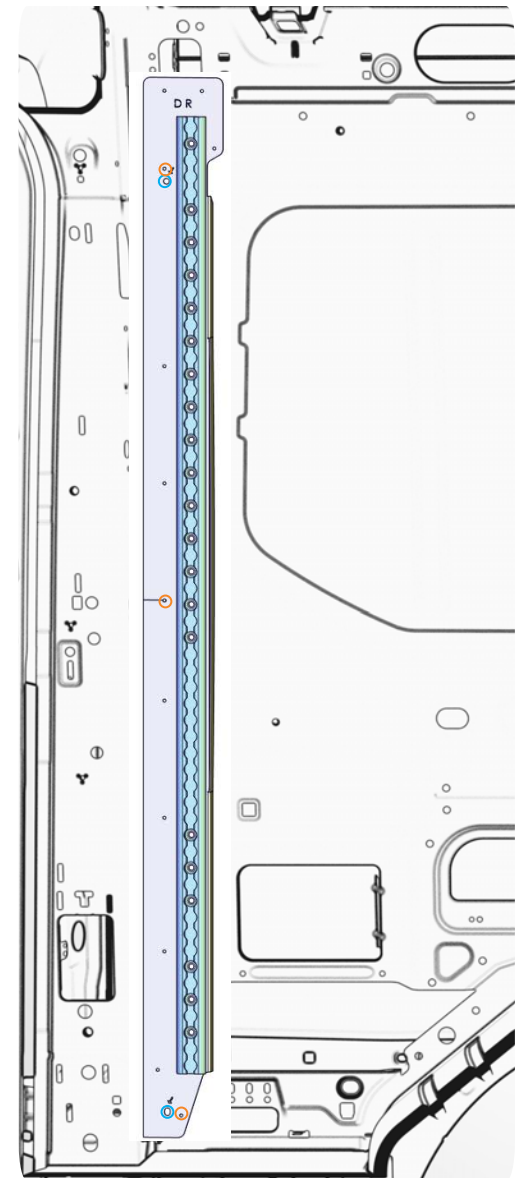

FIG 4
2.3 Align Driver Side Rear Bracket: Align the Driver Side Rear Bracket to the Alignment Point as shown in FIG 4.